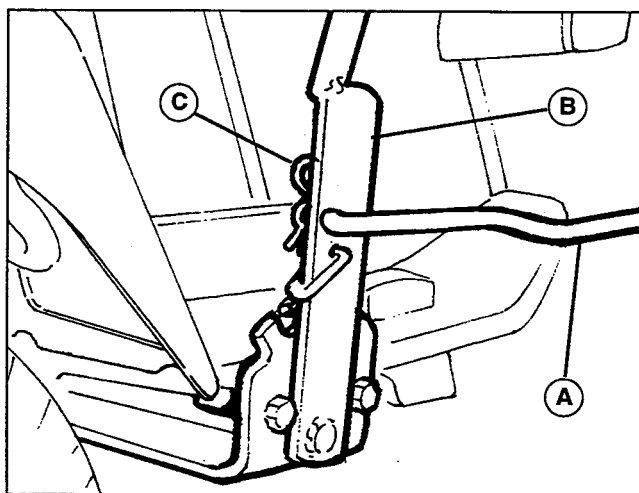

Figure 16. Installing Lift Rod to Manual Lift Lever
10. **Manual Lift Lever Units:** See Figure 16. Connect rear of lift rod (A) to manual lift lever (B), and secure with spring clip (C).